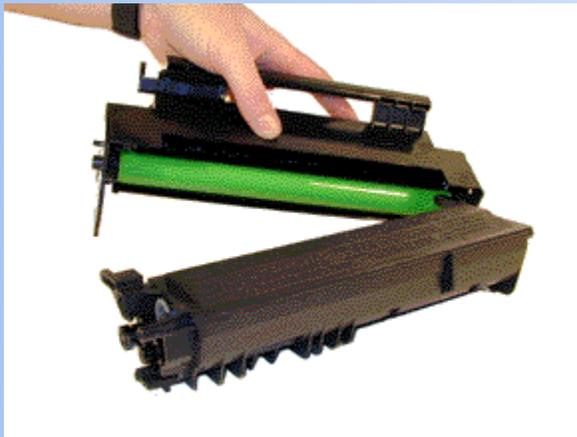

FIGURE 10
4. Pry one of the side panels, and separate the two halves. See Figure 10